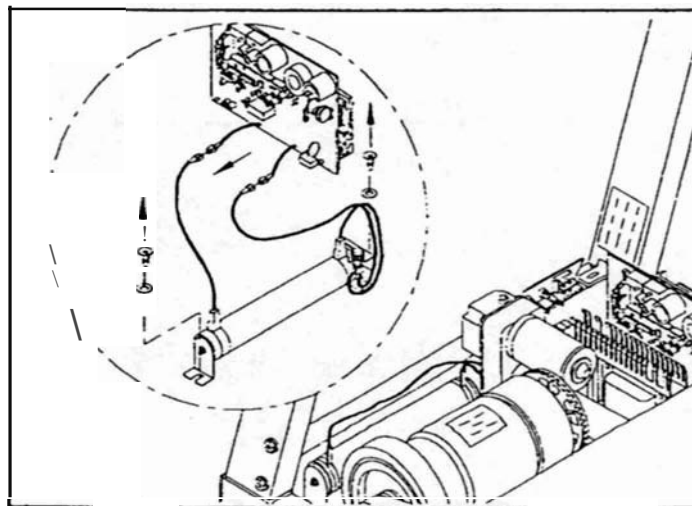

Fig.3
2. Disconnect the large resistor cable from the drive board, and remove the large resistor. (see Fig.3)